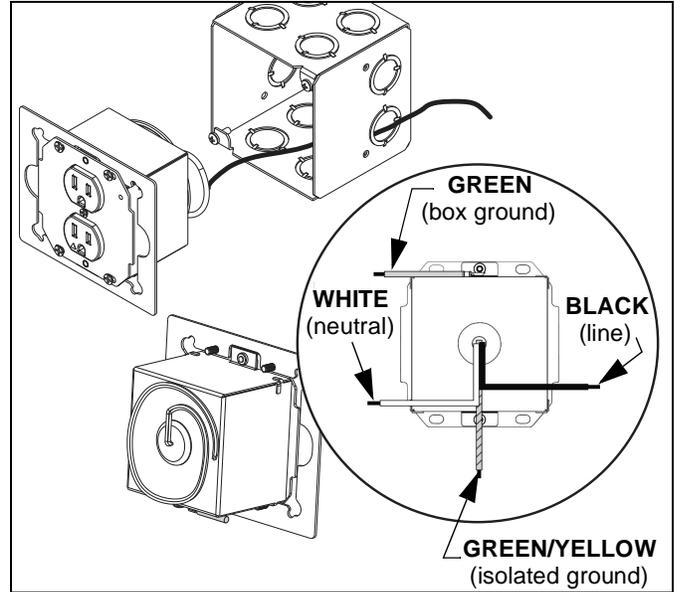

Figure 3
- Wire the outlet box as required. Refer to Table 1 and Table 2 for input and output specifications. (See Figure 3)
- Wire the outlet box as required. Refer to Table 1 and Table 2 on previous page) for input and output specifications. (See Figure 3)